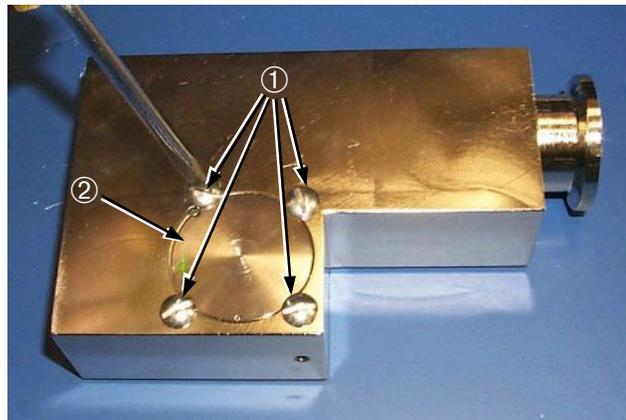

Figure 5-14 Magnetic Pole Piece
1. Remove the 4 slotted screws ① to free the magnet pole piece ② (Figure 5-14).